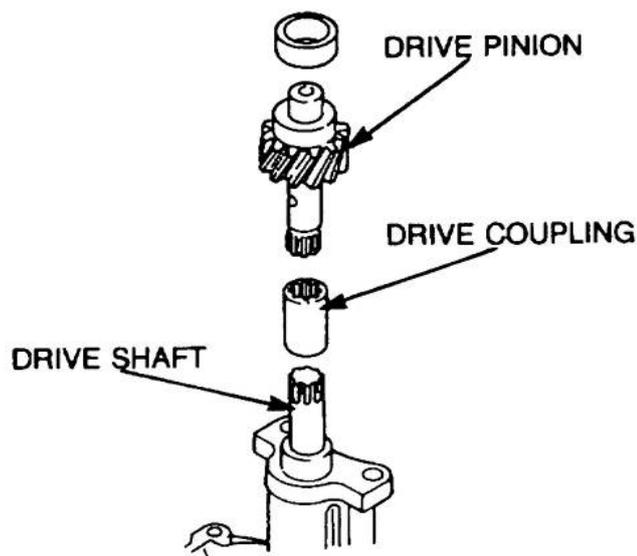

Figure 38 Removal of the Drive Pinion, Collar and Coupling
- c. Remove the collar and the drive gear from the drive coupling. Slide the coupling off the oil pump drive shaft (Figure 38).